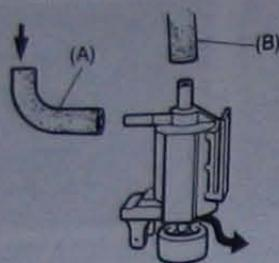
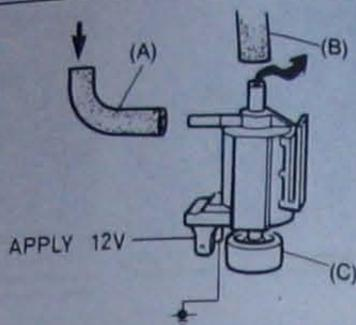

Fig. 5.9 Distributor three-way solenoid valve operation (Sec 9)
Fig. 5.10 Distributor three-way solenoid valve operation with battery voltage applied (Sec 9)
- Disconnect the hose from the distributor vacuum unit and trace it back to the three-way solenoid valve. Disconnect the other hose from the end of the solenoid then disconnect the electrical connections and remove the solenoid from the car. Blow through the hose which was disconnected from the vacuum unit (A in Fig. 5.9) and check that the air comes out of the solenoid valve exhaust port. Then, using a 12 volt battery and two auxiliary wires, connect the battery across the solenoid terminals and blow through the hose (A) again. The air should now be expelled through the vacuum hose union (B) on the end of the solenoid valve (Fig. 5.10). If not the three-way solenoid valve is faulty and must be renewed.